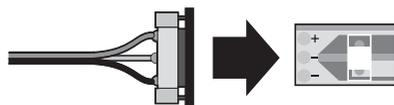

Figure 3
2. Pull the fastener off the supply connector (Fig. 3).